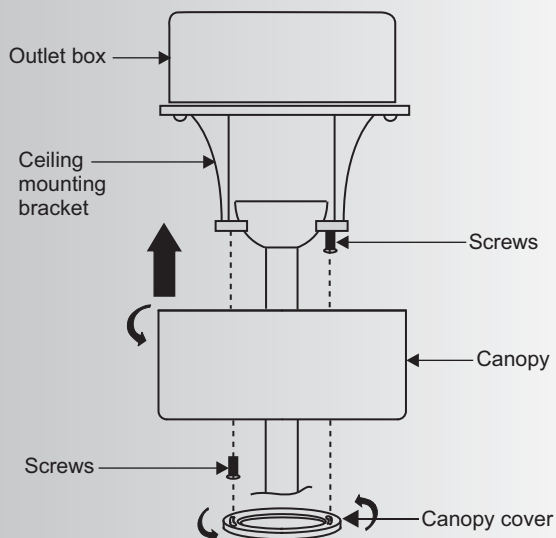

Fig. 15
**NOTE:** Adjust the canopy screws as necessary until the canopy and canopy cover are snug. (Fig. 15)